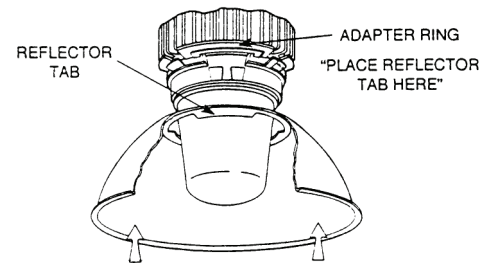

FIGURE 3
1. Place the reflector in position on the luminaire housing adapter ring. When correctly placed, all three tabs of reflector will rest on areas marked "Place Reflector Tab Here" on adapter ring. See Figure 3.